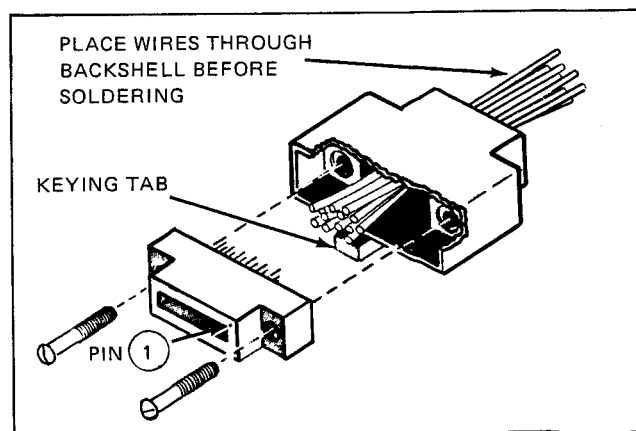

Figure 602-2. DOU Connector
- Slide cable wires through the DOU connector backshell (hood) as shown in Figure 602-2.
8. Position the sleeving over the solder joints, and install the connector backshell (hood) and strain relief as shown in Figure 602-2.